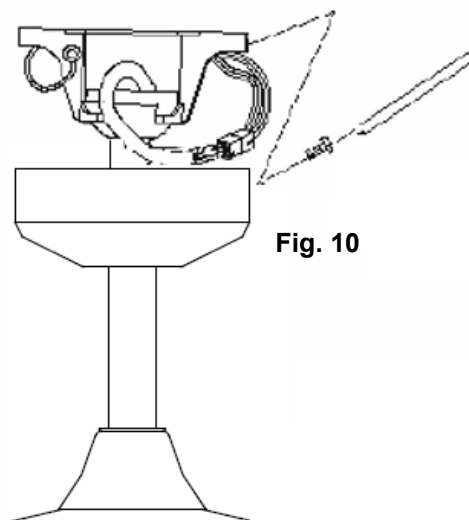

**Fig. 9**
- Carefully insert the Remote Receiver above the hanger ball in the remainder spacing in the mounting bracket. Take care not to damage or loosen any of the wiring. (label 5 & Fig. 9).